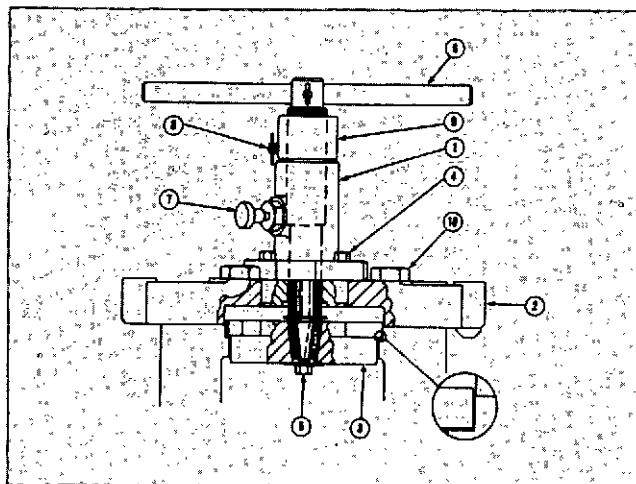

Fig. 1-1-29, V40156. ST-1059 Counter bore tool
b. Install ST-1076 Adapter Plate (2, Fig. 1-1-29) onto ST-1059 Driver Unit (1) with four capscrews (4) provided with unit.
c. Install ST-1065 Tool Holder (3) onto driver unit (1) allowing keyway in tool holder to engage over Woodruff Key.
d. Fasten tool holder (3) onto driver unit (1) with capscrew (5).
h. Set point of tool bit below larger diameter of tool holder and tighten one setscrew (2).
i. Place tool bit setting gauge in position No. 2 (8) with dowel pins engaging smaller diameter of tool holder and holding locating surfaces of housing against flat surface of tool holder (see Section B).
j. Position adjusting pin (5) over point of tool bit.
k. Loosen setscrews (2) allowing tool bit point to rest against locating point of adjusting pin.
l. Tighten setscrews (2).
a. Pull out on handle (6, Fig. 1-1-29) until plunger (7) will hold tool holder (3) in the up position.
c. Hold onto handle (6) and pull out on plunger (7).
f. Loosen locking screw (8) and rotate adjusting nut (9) in clockwise direction until tool bit clears counterbore ledge.